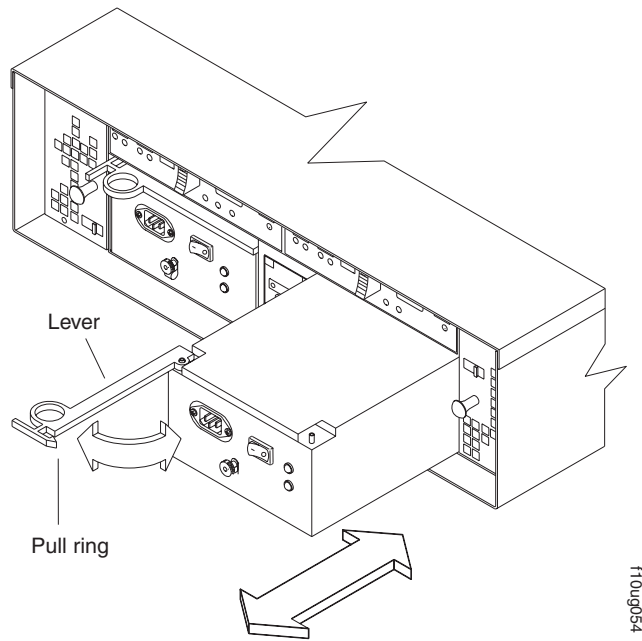

Figure 14. Removing a power supply
2. Pull the lever open 90° and remove the power supply, as shown in Figure 14 on page 27.